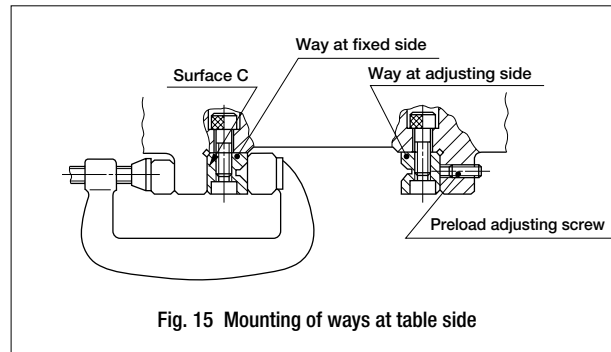

Fig. 15 Mounting of ways at table side
**4 Mounting of ways at table side (Fig. 15)**